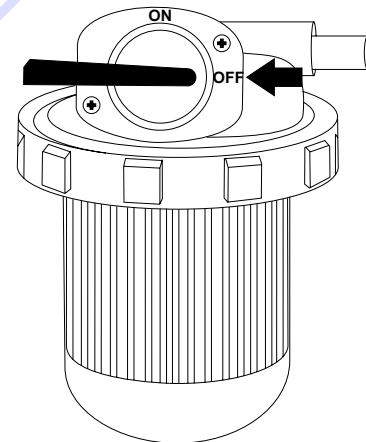

Figure 51. Fuel Valve Lever (OFF)
7. Place the fuel valve lever (Figure 51) in the **OFF** position.